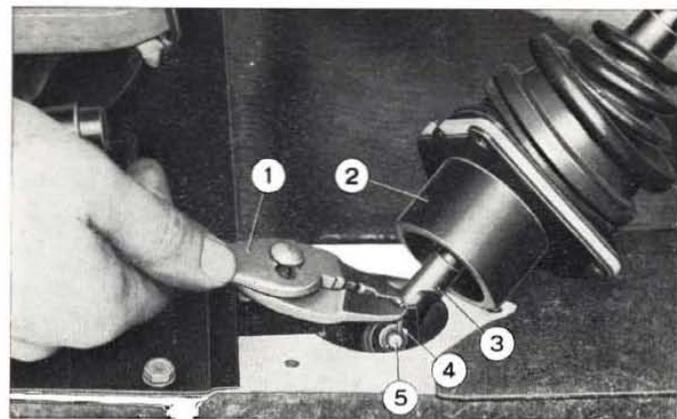

Fig. 207 - Disassembling gearshift lever.
- back out gearshift lever support screws and, using flat-nose pliers, disengage the gearshift lever from pin (fig. 207);